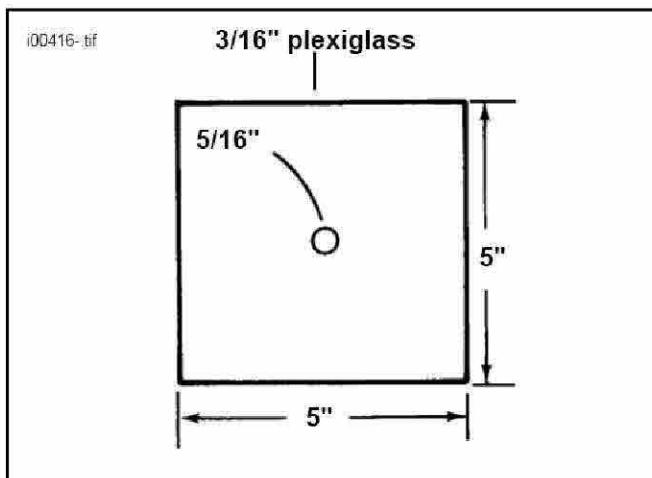

Figure 4. CC Plate
- CC PLATE can be purchased from any hot rod shop or can be made out of 3/16" Plexiglas 5" x 5" with a 5/16" hole drilled through the center as shown in Figure 4.